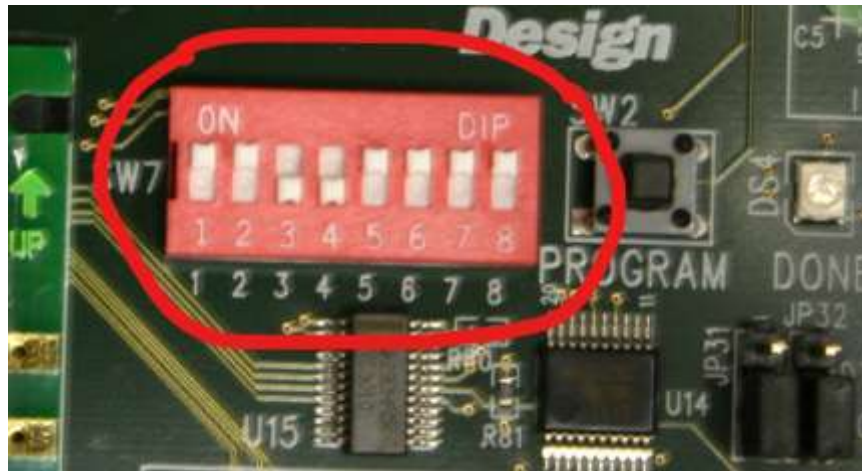

**Figure 15-1 Blue Jumper Placement**
- 4) Using Table 2 below, set four of the switches on the red DIP switch in the rear of the Digital Lynx Interface Box. This red DIP switch is designated “Config DIP Switch” in the top image of *Figure 15-1* on the previous page.